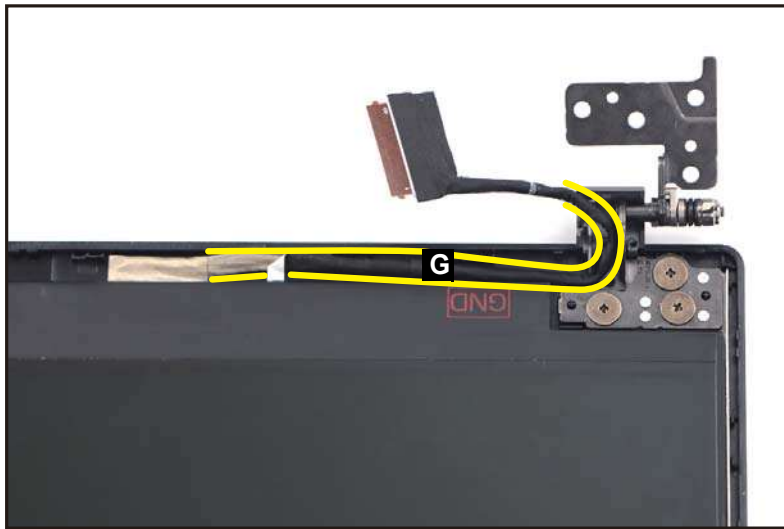

Figure 3-82. Replacing the LCD Panel
8. Route the LCD cable (G) through the cable guides on the bottom side of the LCD cover as shown in Figure 3-82.